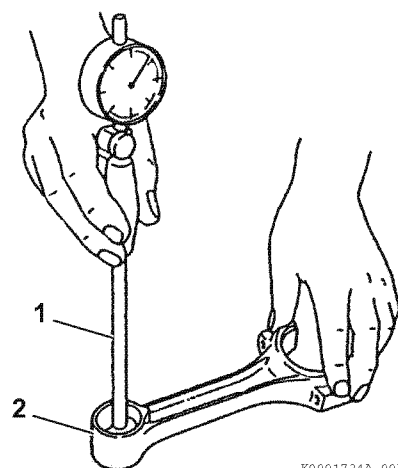

Figure 6-66
1. Measure the wrist pin bushing bore using a bore gauge (Figure 6-66, (1)). Replace the bushing if not within specifications. If the bushing has been removed, measure the inside diameter of the connecting rod small end (Figure 6-66, (2)). Record the measurements. See *Connecting Rod* on page 6-9 for specifications.